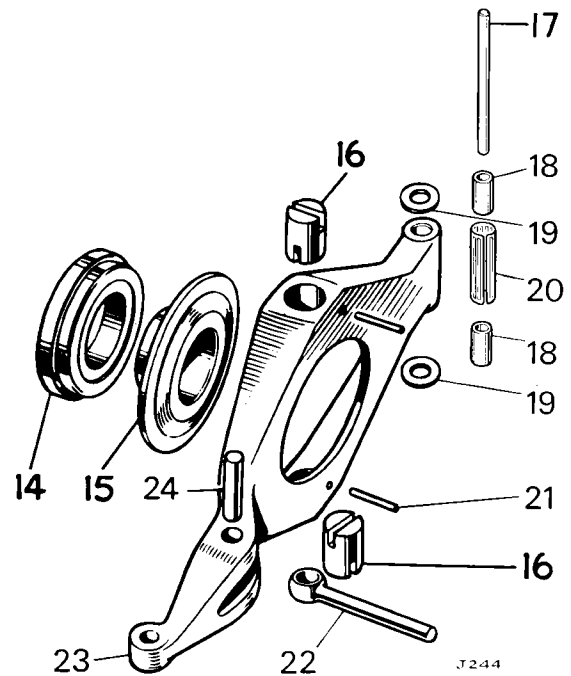

Fig. 11. Exploded operating lever assembly (Herald 1200, 12/50, 13/60 and Spitfire)
Referring to Fig. 11 for Herald 1200, 12/50, 13/60 and Spitfire vehicles: drive the pin (17) from the clutch housing and remove the operating lever (22). Drive out the pins (20) and release the bearing sleeve (15) by extracting the plugs (16). Withdraw the bearing (14) from the sleeve.